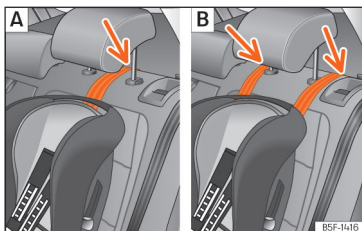

Fig. 41 Rear seats: adjustment and assembly according to the Top Tether belt.
- Position the belt under the headrest (according to the instructions of the seat itself, lift or remove the headrest if necessary) >>> Fig. 41.